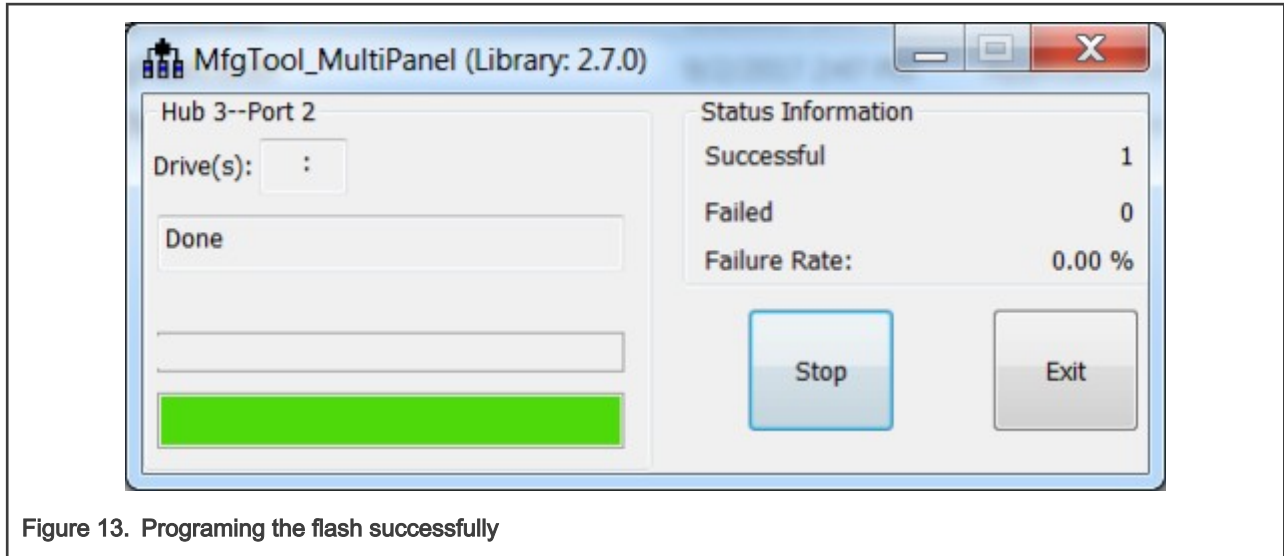

Figure 13. Programming the flash successfully
5. Program the bootable image. Click the **Start** button to trigger a programming sequence and wait for it to complete, as shown in Figure 13. To exit Mfgtool, click the **Stop** and **Exit** buttons.